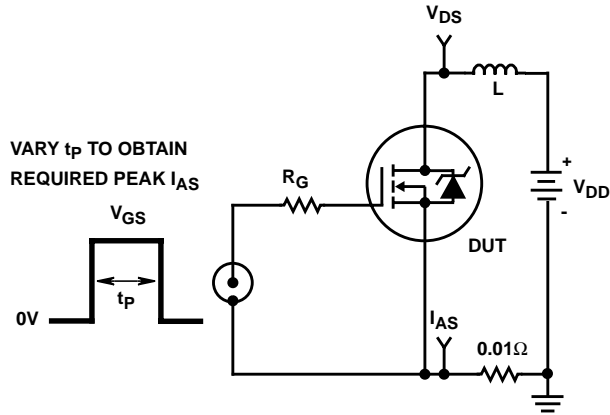

FIGURE 15. UNCLAMPED ENERGY TEST CIRCUIT
4. $V_{DD} = 50\text{V}$, starting $T_J = 25^\circ\text{C}$, $L = 4.5\text{mH}$, $R_G = 25\Omega$, peak $I_{AS} = 8.1\text{A}$. See Figures 15, 16.